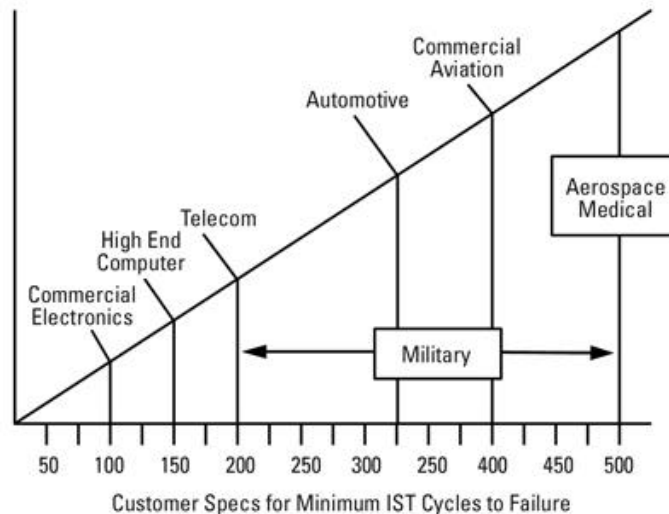

FIGURE 4. Minimum IST cycles-to-failure by industry.
16. Since no thermal cycles-to-failure standard has been established, nor is it likely to be established due to the complexity and variability of printed wiring boards, individual companies must establish their own performance requirements. Requirements are established taking into account specific company needs and the demonstrated minimum cycles-to-failure on their products. These requirements are set based on a wide variety of considerations including the company's product, end-use environment, assembly yields, field failure history, warranties and customer needs. An overview chart of the typical minimum IST cycles-to-failure by industry is helpful in establishing requirements. Figure 4 should be reviewed knowing that recent correlation studies have demonstrated that one IST cycle is equivalent to approximately 3 thermal oven cycles. The chart shows various minimum cycles-to-failure generally established by different industries. This chart reflects the lowest acceptable IST cycles achieved by a product tested in the "as received" condition. **PCD&M**